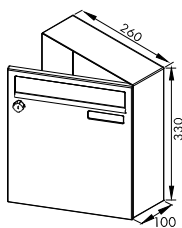

Fig. 7. BOX 5 letter box.
- **BOX 5** - dimensions 260 x 330 x 100 [mm] - Fig. 7;